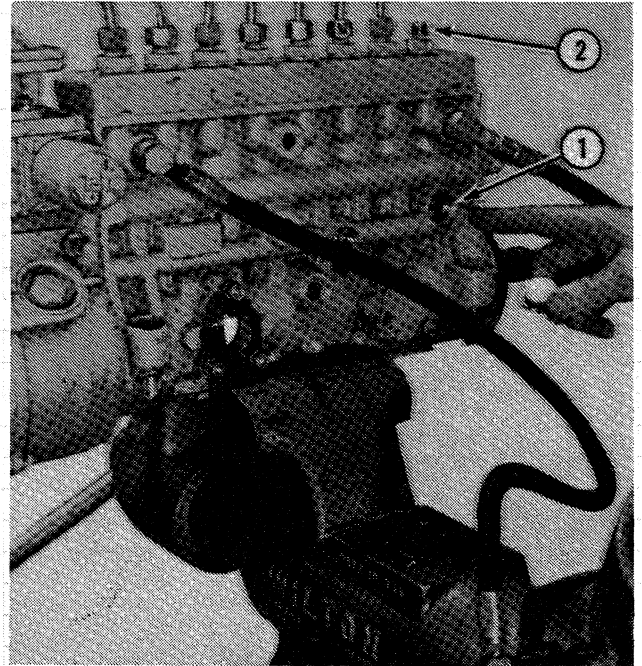

FIG. 176 FUEL PUMP READY TO T-82503 FLOW TIME
Fig. 176. Remove the plug from the observation window (1), so the number eight pump spring can be observed. Remove the high pressure fuel line from the number eight delivery valve holder (2).